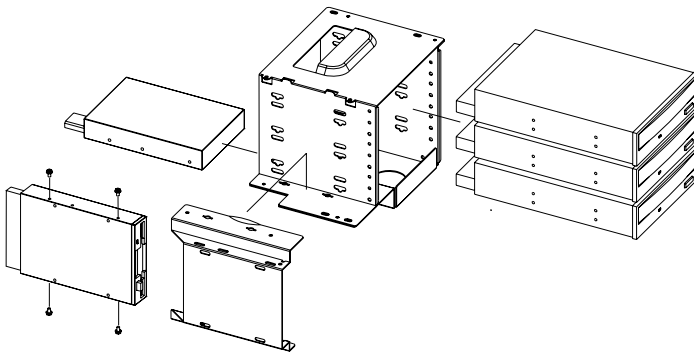

Figure 2.10: Installing the disk drives
3. Insert the disk drives into the proper location in the disk drive housing, and secure them with the supplied screws. (see *Figure 2.10*)